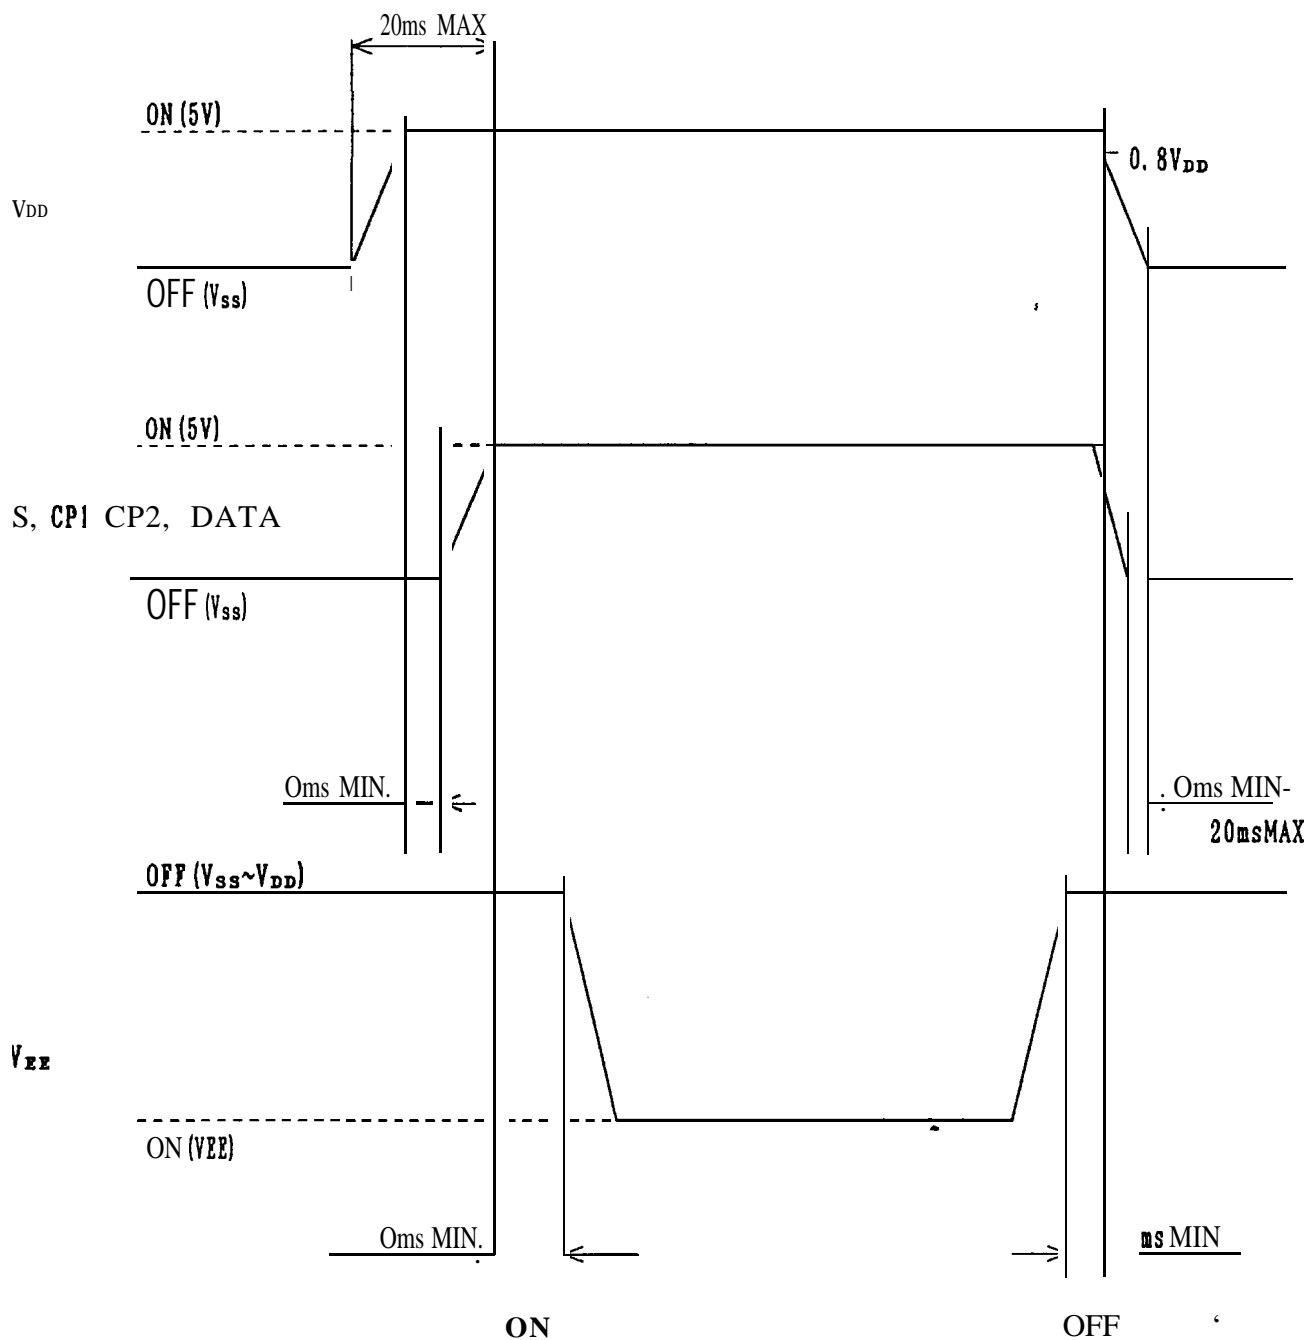

Fig. 10 Power ON/OFF sequence
- (1) The unit should be driven according to the specified ratings to avoid malfunction of permanent damage, DC voltage drive leads to rapid deterioration of LC, so ensure that the drive is alternating wave form by continuous application of the signal M.
- (2) **Prease** refer to Fig. 10 Power ON/OFF sequence,